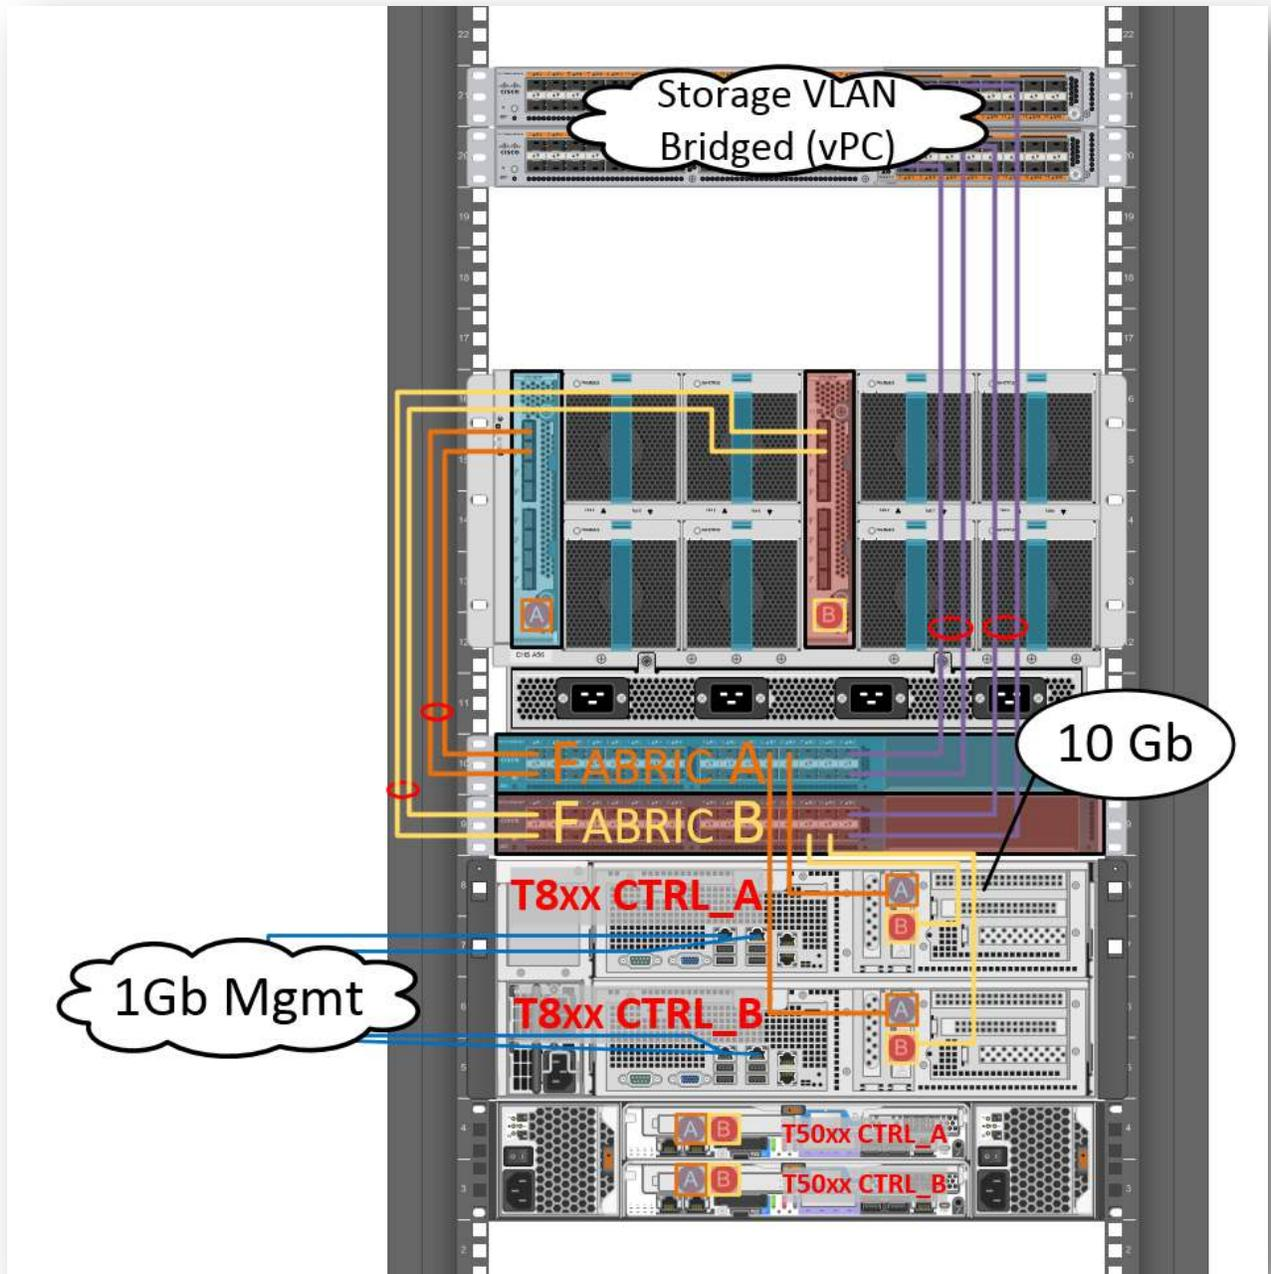

Figure 8– The recommended way to cable a VMstore to the UCS FI. T800 (cabled) and T5000 (uncabled) shown for reference
With ports and VLANs configured, you are now ready to physically connect each new VMstore to the ports you just configured on the FI. The critical thing to note is that one port from each VMstore controller is connected to Fabric A and the other port is connected to Fabric B as illustrated in Figure 8.
**DO:** Connect the VMstore so that the "A" 10GbE data ports from each controller are connected to Fabric A, and the "B" 10 GbE data ports are connected to Fabric B (See Figure 8.)